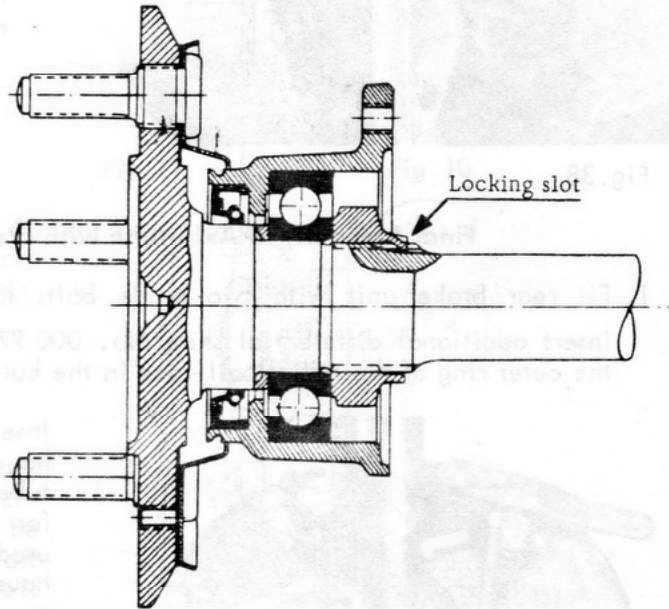

Fig. 35
5. Screw on special nut, tighten (WK 150) and lock against further movement (Fig. 35).